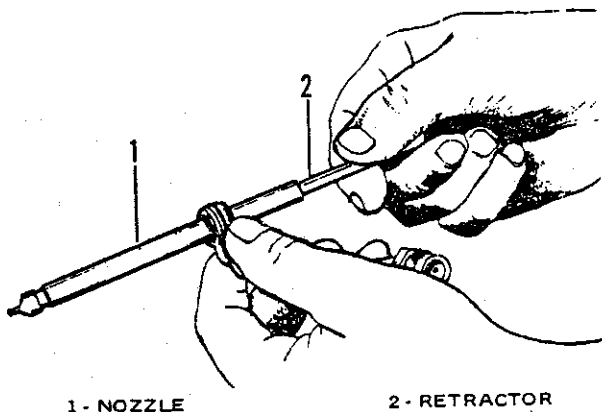

Figure 6-10. Using Nozzle Valve Retractor
15. If the valve (27) does not slide freely from the body (29), use Retractor No. 16481 to remove valve. To prevent bending of the valve, it should be pushed all the way into the nozzle body with the retractor. The retractor may then be secured to the top of the valve by pushing down on the retractor body. Turn the knurled nut on retractor counterclockwise to secure the valve to the retractor. Withdraw the retractor and valve. See figure 6-10.